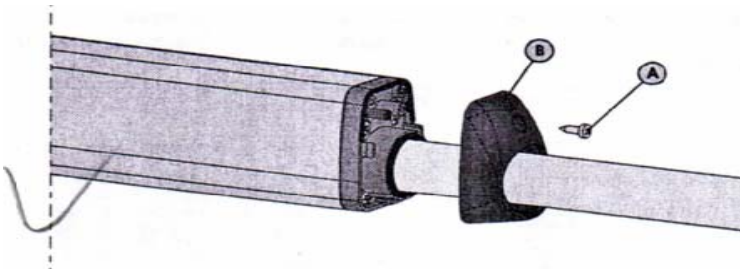

Figure 11.
1. Unscrew the upper fastening screw, figure 11, ref. A, and remove the cap, figure 11, ref B.
5. Reattach the cap, figure 11, ref B, and tighten the fastening screw, figure 11, ref A.